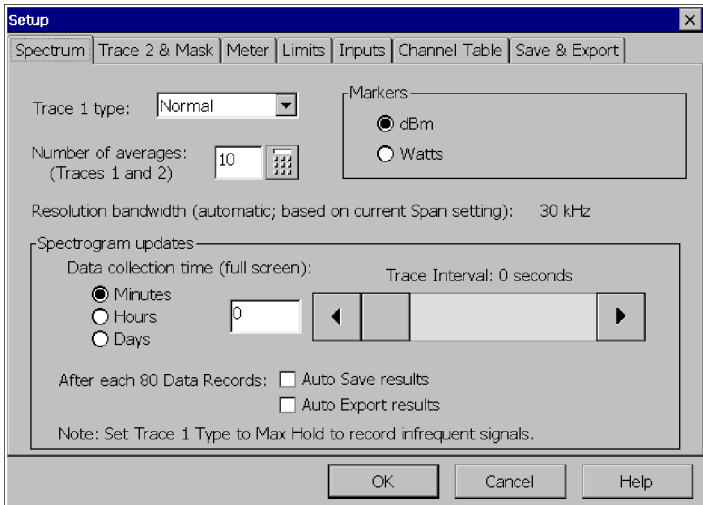

Figure 3-4: The Spectrum tab
2. Tap the **Spectrum** tab. See Figure 3-4.